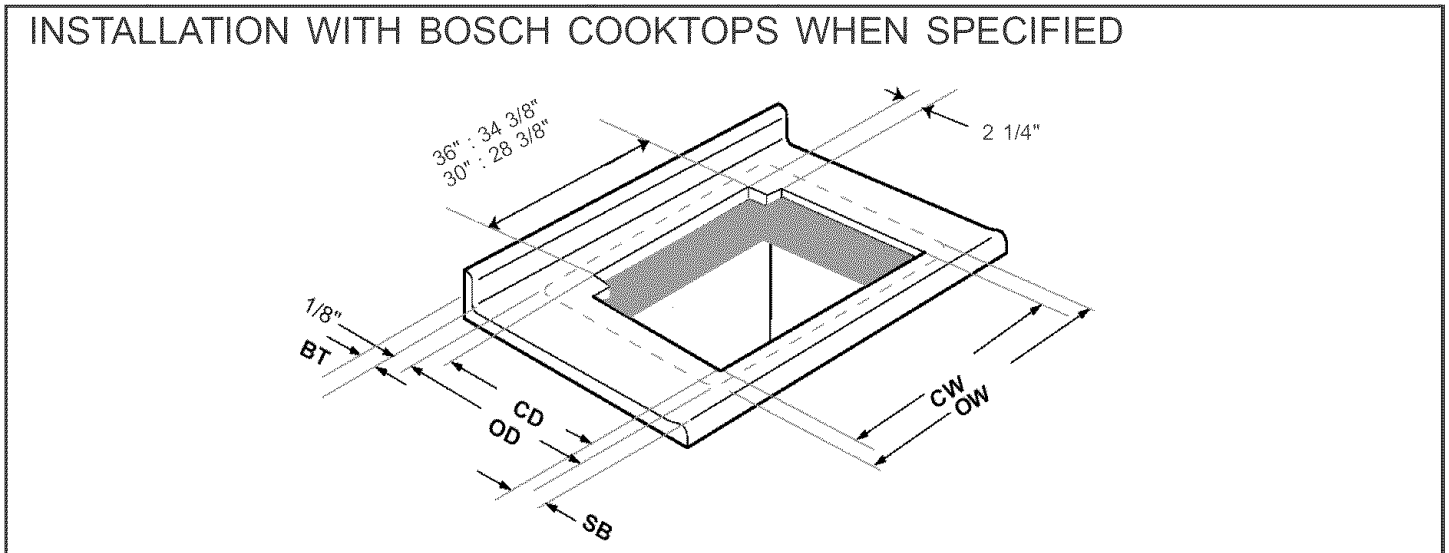

Figure 7
For installation with a Bosch cooktop, refer to Part A and Figure 7 (Page 7)). For installation with another brand of cooktop, refer to Part B (Page 8).
- A. For installation with a Bosch cooktop (Figure 7 and Table 2)